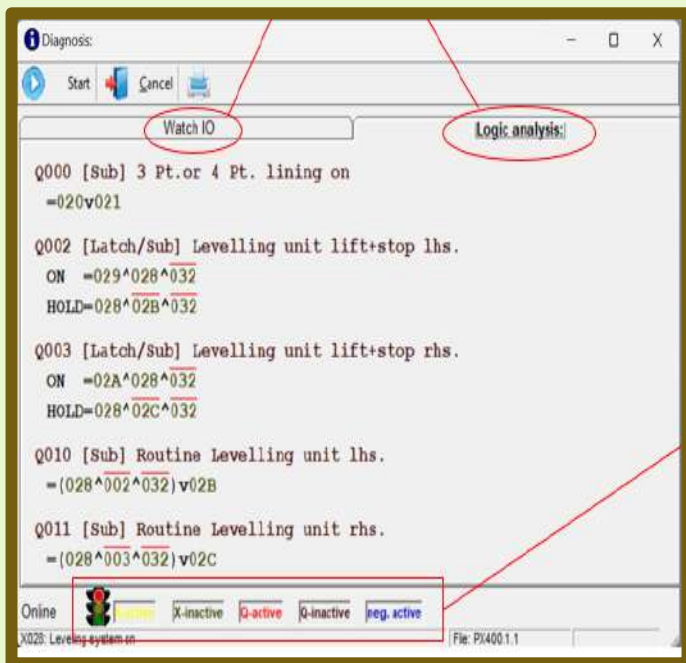

Fig: SPS-09- Diagnosis screen of SPS showing logic chart in digitalised form
g. Click on 'start' to view the real time status of various output commands selected by you and the various inputs and sub-routines available in their logic condition. You will observe that these are visible in various colours. Also see that at the bottom of this diagnosis screen, there will be an index showing colour scheme for various conditions of inputs and outputs. Sample diagnosis screen is shown below (Figure: SPS-09)